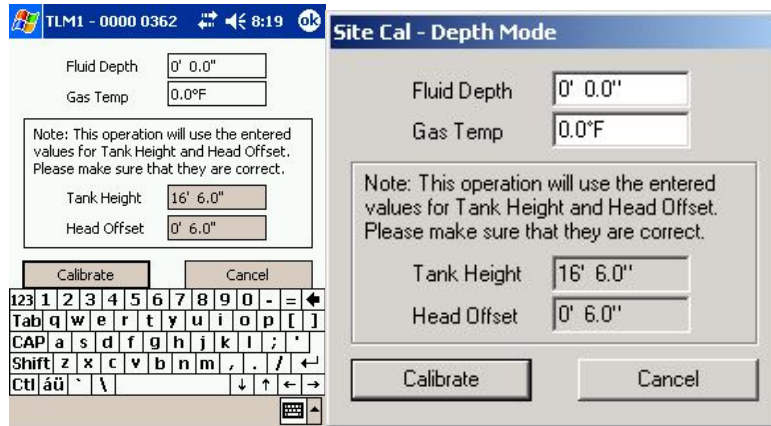

Figure 18. Site Cal window.
- Select **Action** > Site Calibration... The Site Cal window will be displayed as shown in Figure 18.